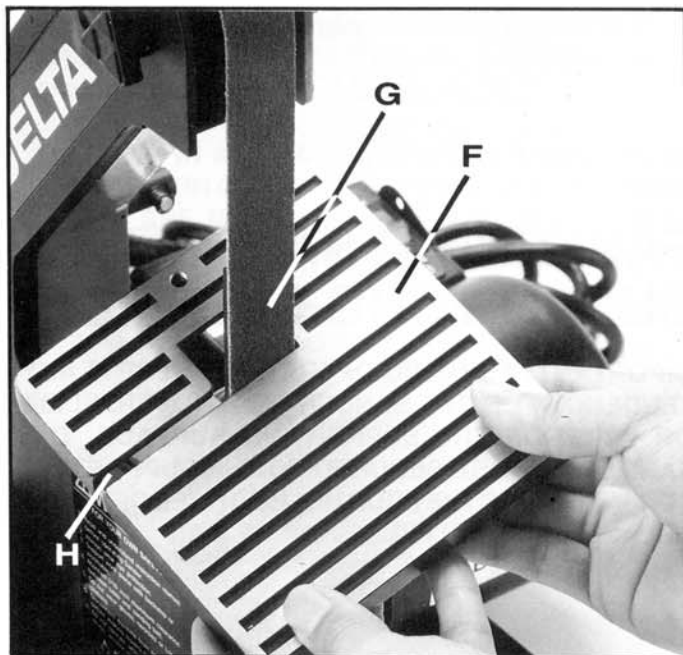

Fig. 3
2. Place table (F) Fig. 3, on sander by threading belt and platen (G) through opening (H) in table, as shown.